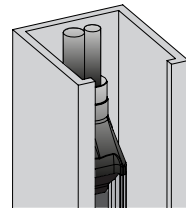

Figure 7: GridScan/Pro with door blanking (standard type)
- ▶ Mount the receiver edge into the guiding rail next to the door control unit (Figure 7).